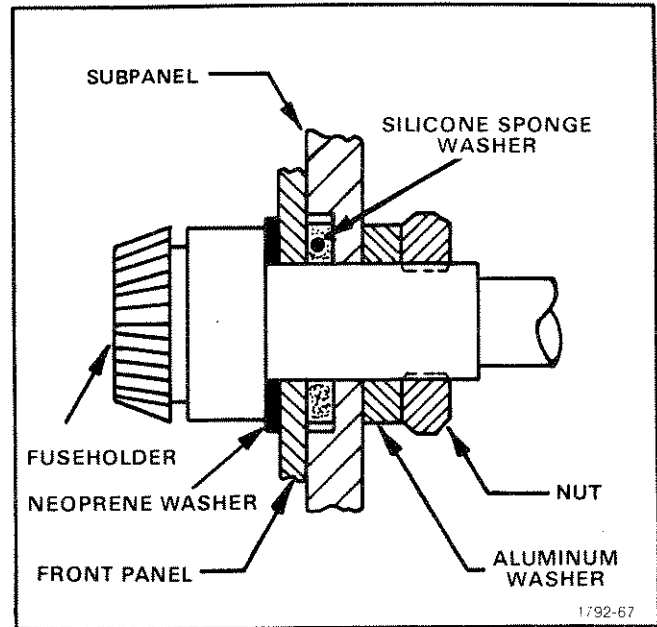

Fig. 5-13. Detail of Fuseholder installation.
### 14. Install Fuseholders in Front Panel (see Fig. 5-13)
1. Install the two Fuseholders as shown in Fig. 5-13.